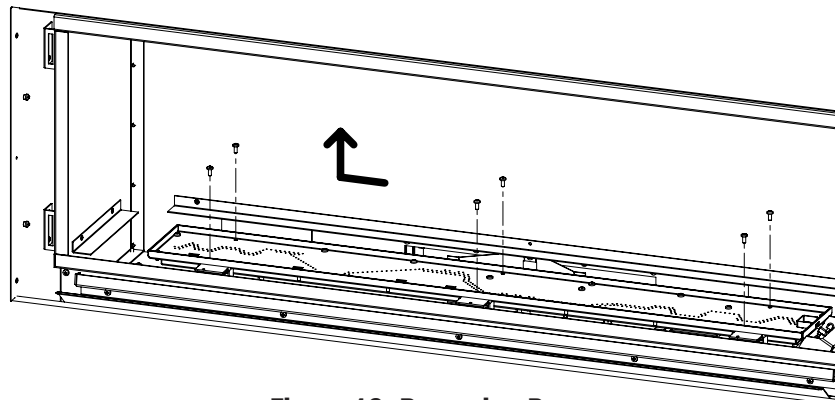

Figure 19: Removing Burner
6. Remove the six T-20 screws securing the burner pan as shown in Figure 19; do NOT remove the other T-20 screws. Once the specified screws are removed slide burner to the left and lift out to remove.